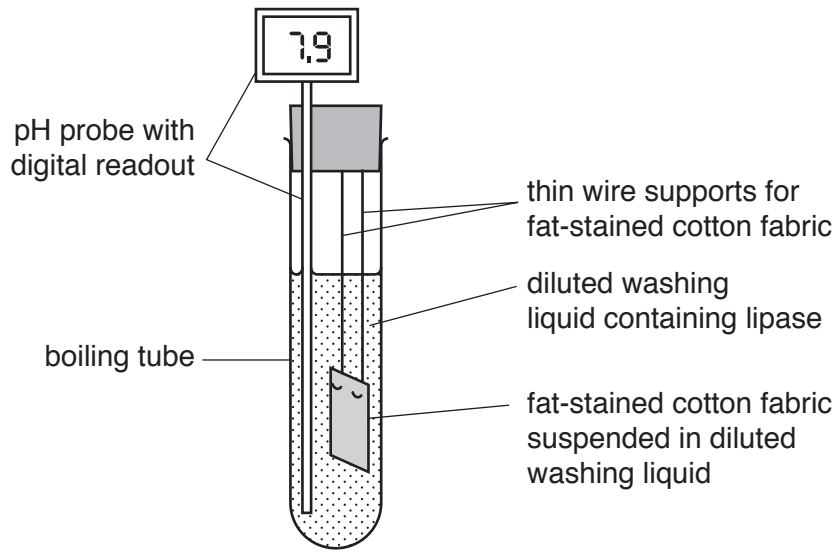

Fig. 1.1
Fig. 1.1 shows the apparatus the students used.
- (c) The students used the apparatus shown in Fig. 1.1 to investigate the effect of lipase concentration on the activity of lipase. They used the different concentrations of lipase that they had decided to prepare.
- (d) Describe a method the students could use to find the effect of the different concentrations of lipase on the activity of lipase, using the apparatus shown in Fig. 1.1.